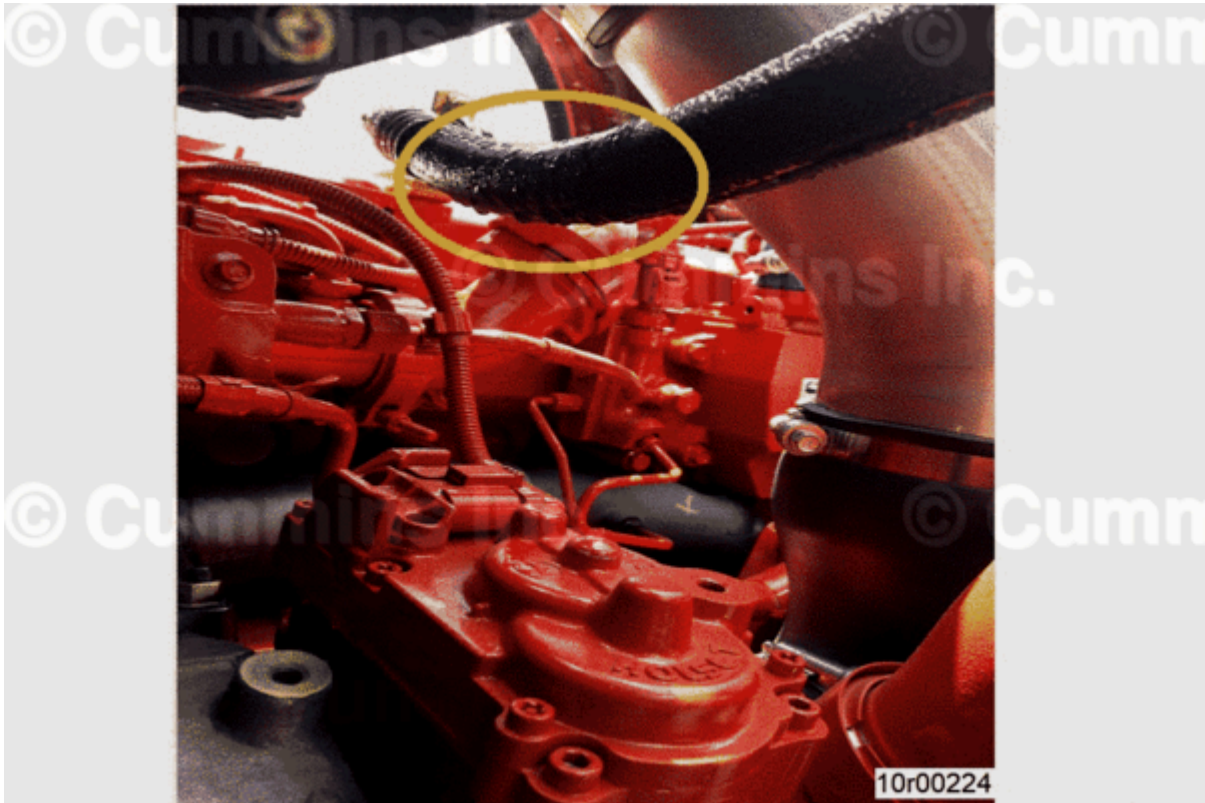

Figure 4, Moisture on Air Conditioning Line
1. Clean air conditioner line to remove moisture. See Figure 4 above.